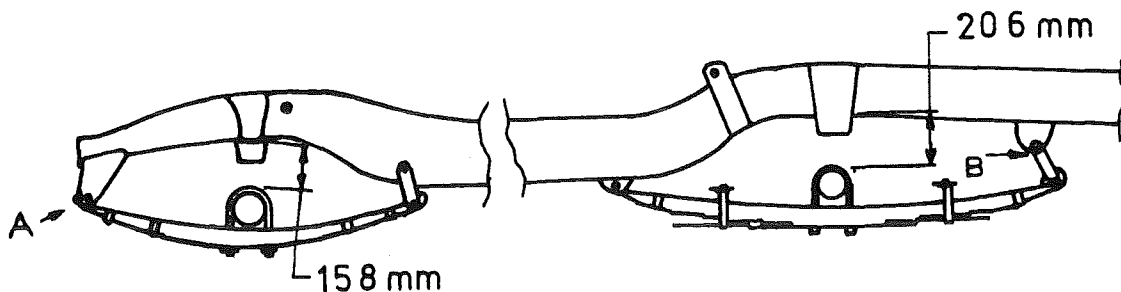

FIG 2 – SPRING DIMENSION REFERENCE POINTS
2. With the vehicle in the static unladen condition standing on level ground and the tyres correctly inflated, measure the distance from the ground to the shackle pin centres, marked 'A' and 'B' Fig 2. The permissible variation between vehicle sides in front or rear suspension height is 25 mm.
- d. Replace the shackle pins and on achieving the spring position as shown in Fig 2, tighten first the shackle pin and then the lock nut to 81–95 Nm.